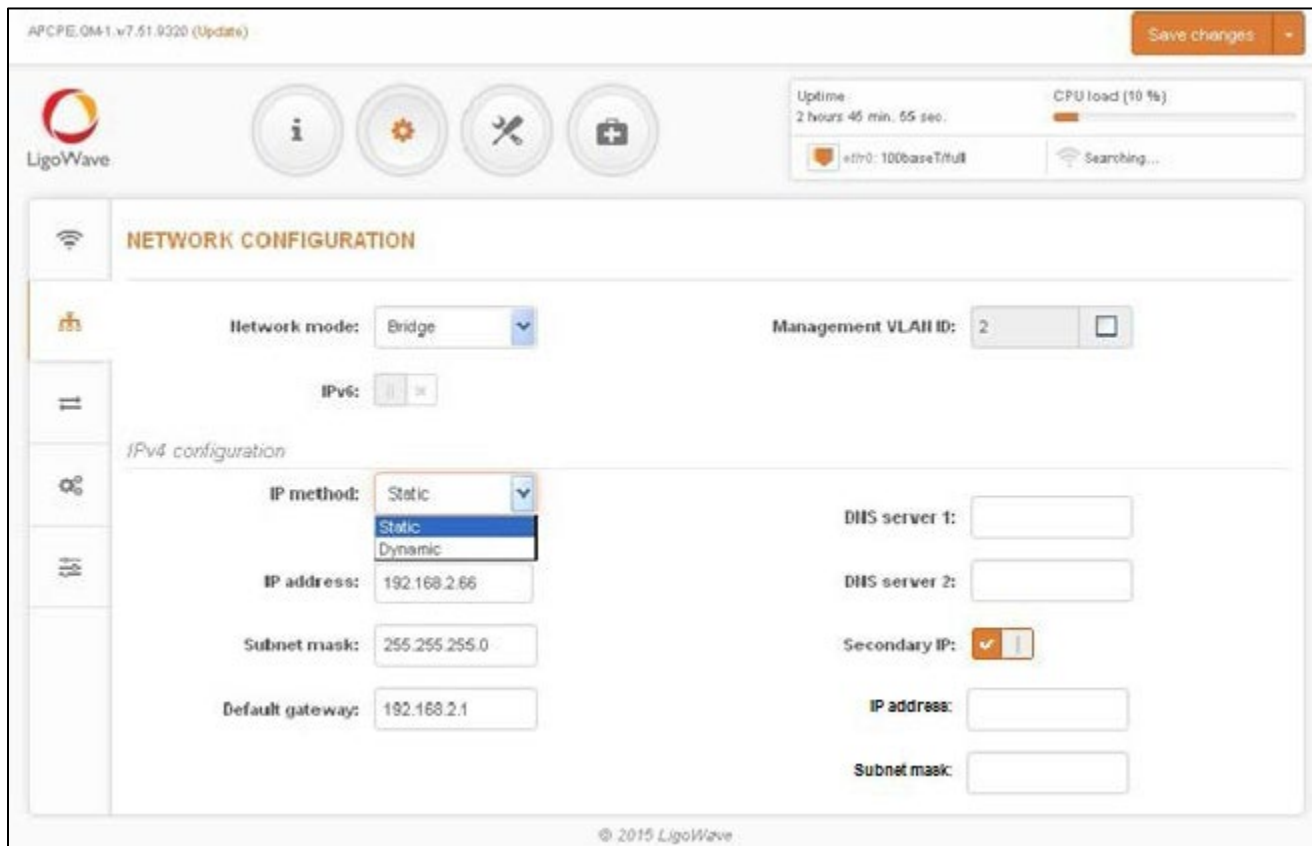

Figure 12 Network Configuration
18. (Change IP Method). Change the DLB radios default IP method to Static in every radio (Figure 12):
- a. In the **Settings > NETWORK CONFIGURATION** window (Figure 12), toggle the Secondary IP box on. IP Address: and Subnet mask: boxes will appear.